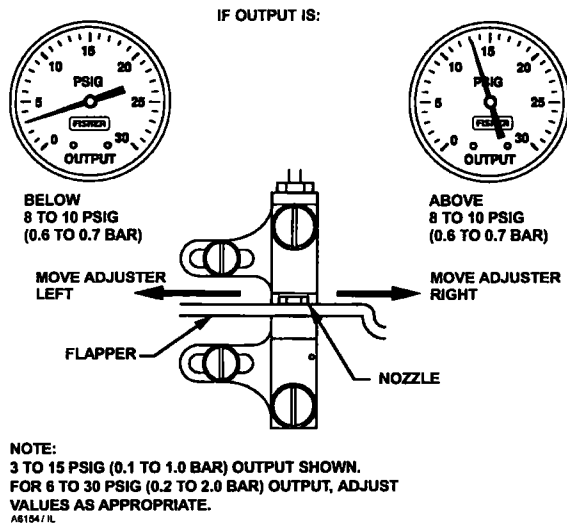

Figure 9. Direct-Acting Controller Span Adjustment—Proportional-Plus-Reset Controllers
11. If the output pressure is not between 8 and 10 psig, adjust the controller span by loosening one of the two adjusting screws (key 43) and move the calibration adjuster (key 41) a small distance as indicated in figure 9.
13. For controllers with anti-reset windup (Type 4160KF and 4162KF), remove the two machine screws, anti-reset windup cover, and two O-rings installed in step 1 of this procedure. Install the anti-reset windup assembly (key 186) with the arrow pointing in the direction recorded in step 1.